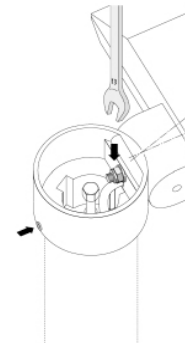

Figure 3
5. To adjust beam direction (up to 15 degrees), undo hex nut and adjust joint (Figure 3). Be sure teeth are secured into position. BE CAREFUL AS THE FIXTURE WILL DROP QUICKLY UPON LOOSENING.